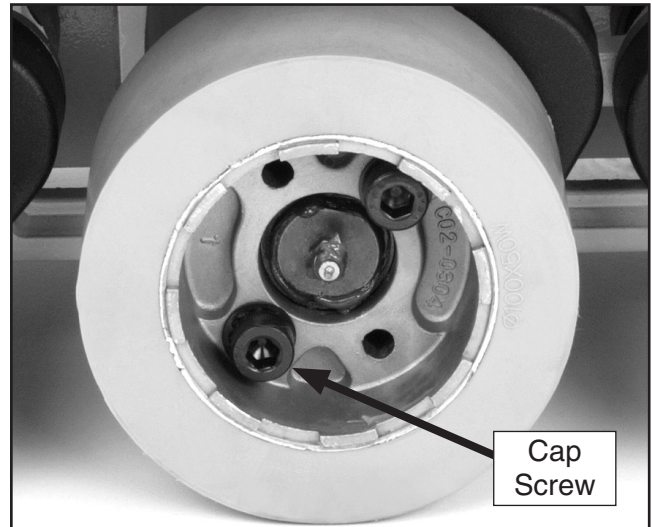

Figure 15. Wheel replacement.
2. Using a 5mm hex wrench, remove the two wheel retaining cap screws (**Figure 15**).